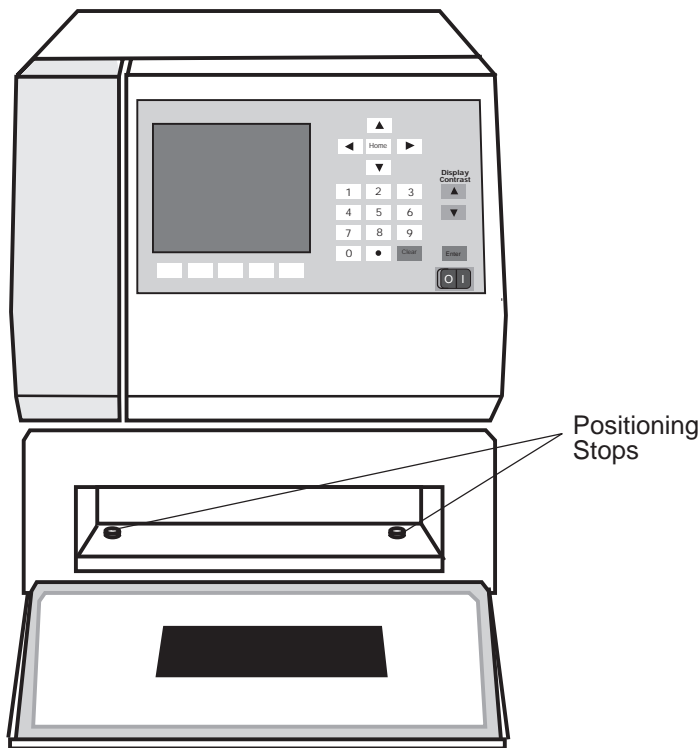

Figure 4-5 Inserting the Carousel
4. Slide the carousel into the sample compartment until it reaches the two positioning stops on the compartment floor (Figure 4-5).